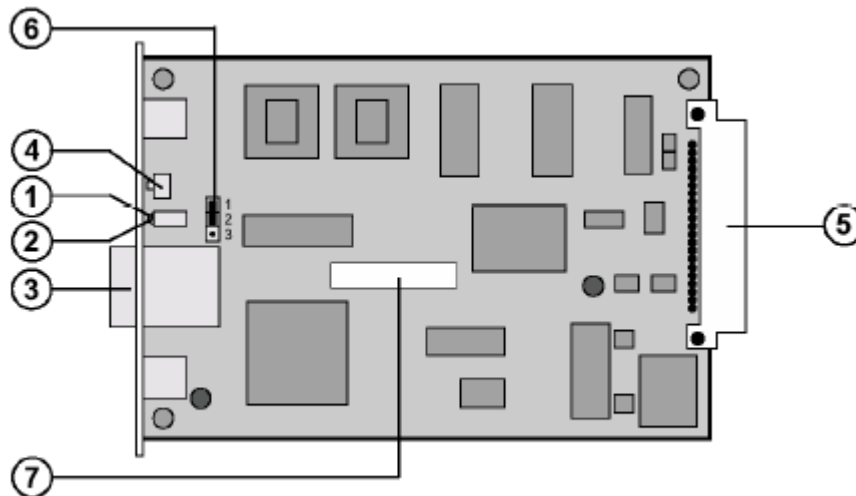

Figure 1: A6593A, SNMP board of the HP Power Trust II MR UPS device
The MAC address and accompanying IP address of the built-in SNMP board of the HP Power Trust II MR is located on the board. If you cannot get the address information elsewhere, you have to pull out the SNMP board. The board can be hot swapped, if absolutely necessary, but it is recommended to turn the UPS device off. The MAC address is situated on a label (7 – see figure 1 above) in the middle of the board. You see a bar code and next to it the MAC address. You can compute the factory default IP address from the MAC address. Take the last two octets (e.g. if the MAC address is 0080C8ABAA01, take AA01) and convert them to decimal (in our example AA = 170, 01 = 1). The IP address is always in the form of 168.8.X.Y (in our example the IP address is 168.8.170.1). The default netmask is 255.255.0.0, gateway is 0.0.0.0.
To return to factory default IP network settings, remove the SNMP Card from its slot, move the jumper (6 – see figure 1 above) to the factory network parameter position (pin 2-3). Return the SNMP card to its slot in the Power Trust II MR UPS. After 45 seconds the card will return to its factory default IP configuration. Remove the SNMP card and set the jumper (6) to the Personalized network parameters position (pin 1-2). Return the SNMP card to the UPS. The A6593A SNMP Card will now respond to its factory default IP address.